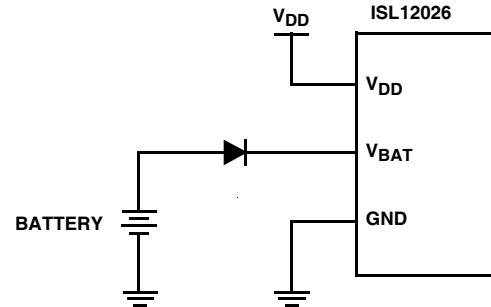

FIGURE 2. PROTECTION CIRCUIT WITH AN EXTERNAL DIODE)
series resistors should fail. Figure 2 shows the actual circuit with the external protection diode. (Note that a high value series resistor would provide similar protection, but would limit normal operating range.)
- A) Intersil devices that require one diode in series (Figure 2 on page 1) with the V_{BAT} pin for UL requirements: ISL1208, ISL1209, ISL1218, ISL1219, ISL1220, ISL1221, ISL12020, ISL12020M, ISL12022, ISL12022M, ISL12024, ISL12025, ISL12026, ISL12027, ISL12028, ISL12029.